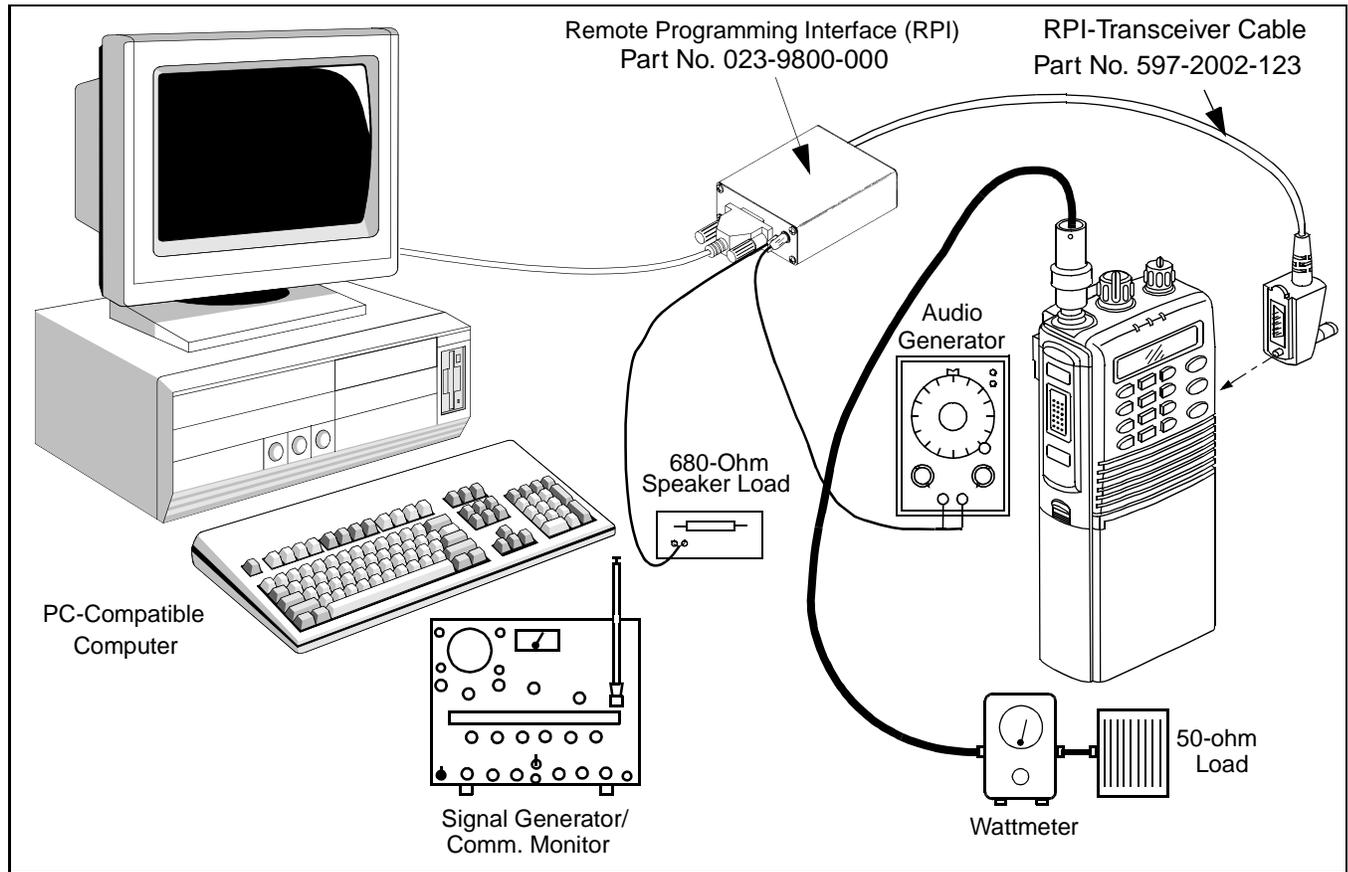

Figure 6-1 Alignment Setup Diagram
Connect the test setup shown in Figure 6-1. Additional information follows on equipment in this setup.
1. With transceiver power turned off, connect the RPI to an unused serial port of the computer. Then connect the RPI to the accessory jack of the transceiver using the cable indicated in Figure 6-1.
1. Connect a wattmeter and dummy load to the antenna jack as shown in Figure 6-1.